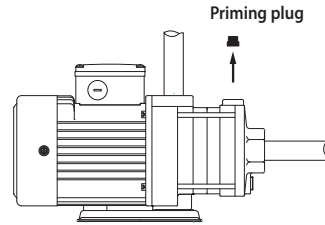

Fig.4
- 3.1.1.2 Remove the priming plug, fig. 4.